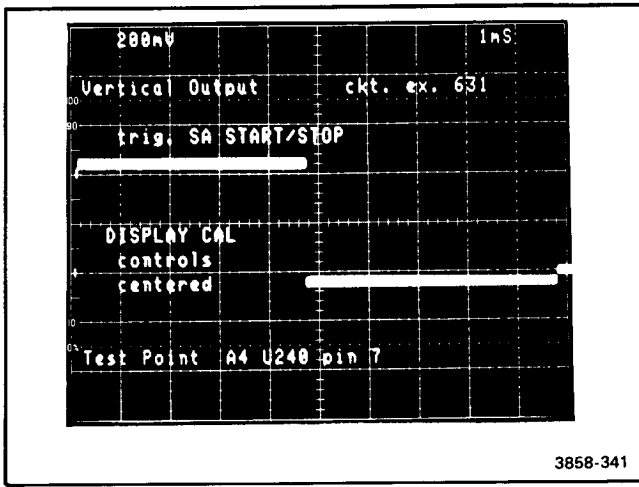

Figure 3-21. Waveform for Vertical Output test.
- 37) Vertical Output (631). If this test fails, place the Display Board on an extender and run circuit exercise 631. Use an oscilloscope to troubleshoot the Vertical Output. Waveform Figure 3-21 is a typical output of this test. The SA Start/Stop line provides a stable oscilloscope trigger while using this test for troubleshooting.